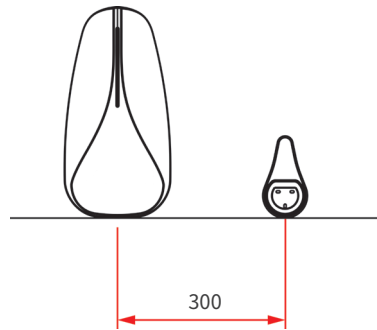

Fig. 7: Installation position of gun rack relative to pile body
1) Installation height: the bottom of the gun rack is about 1,300 mm away from the ground; the installation position relative to the pile body is shown in the Fig. 7 below.